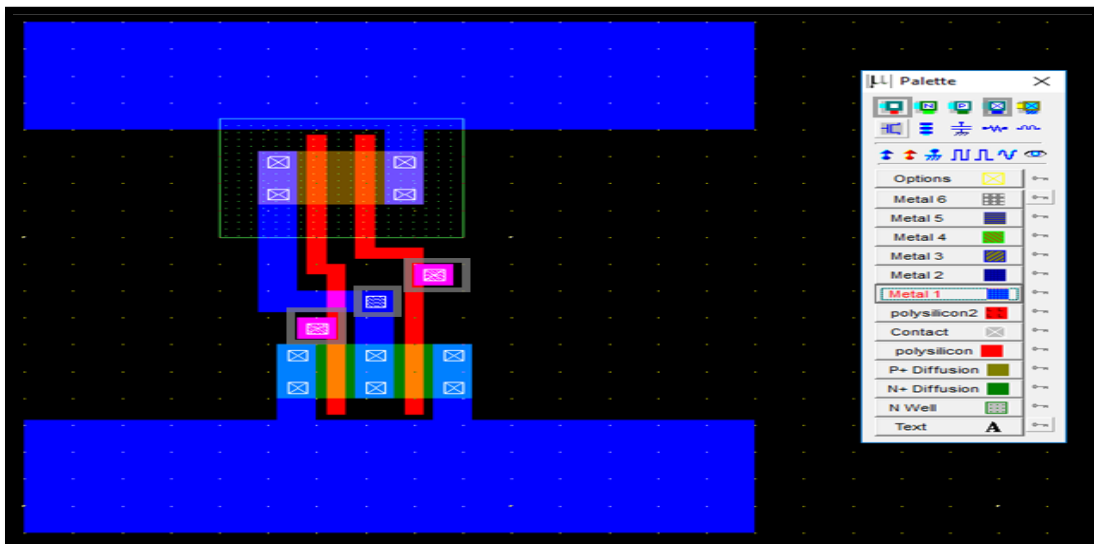

Figure 41:connect the contact (metal1/metal2)
- Now we label the inputs and output as in1, in2 and out1. Click on Add a Pulse Symbol in the palette (5th from the left in the 3rd row). Then click on the metal2 of one of the inputs. A window appears. Change the name of the input signal. Insert 01 sequences and click on Insert. The click on Assign. Similarly assign the 2nd input a pulse. See figure 41: